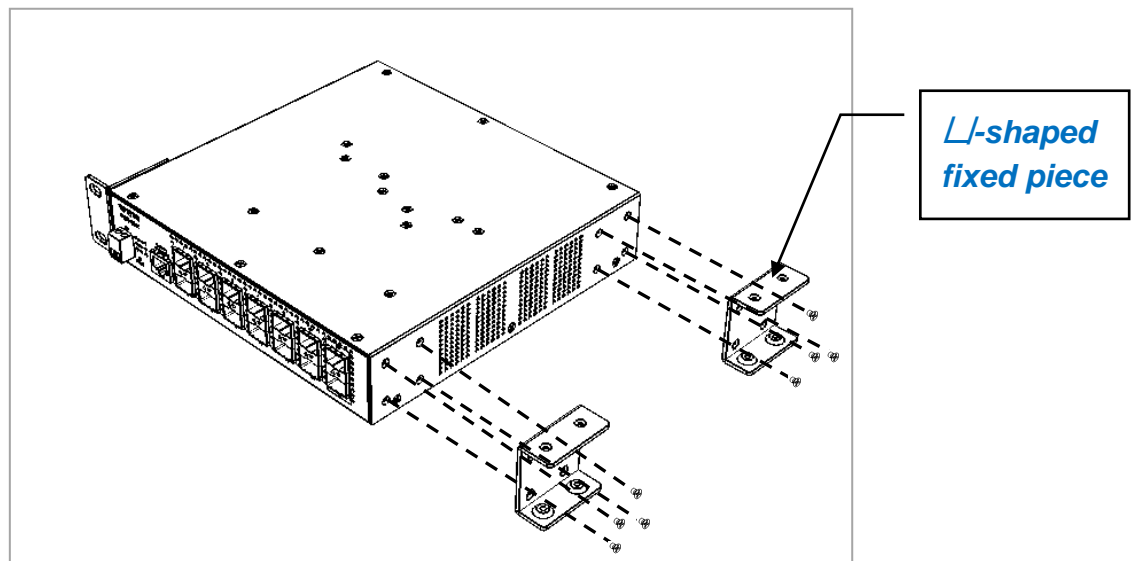

Figure 2-2. Install the L-shaped fixed pieces for two-switch mounting
- 1.4. On the right side of the switch, attach one L-shaped fixed piece by inserting the screws provided in the combine kit through this fixed piece and into the mounting holes in the switch. (See Figure 2-2)
- 1.5. Repeat the same manners as we had mentioned in Step 1.4 to install another L-shaped fixed piece on the same side of this switch. (See Figure 2-2)